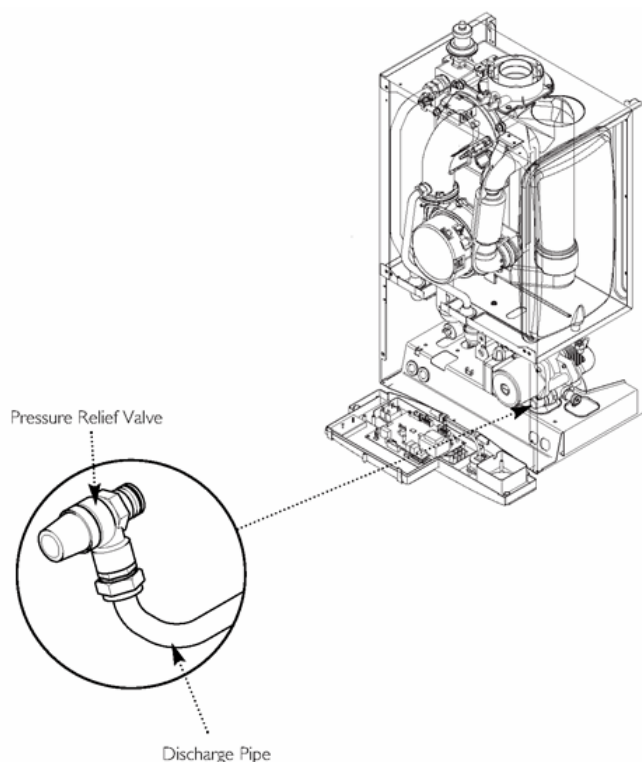

Fig. 44
10.4 Fitting the Pressure Relief Discharge Pipe (Fig. 44)